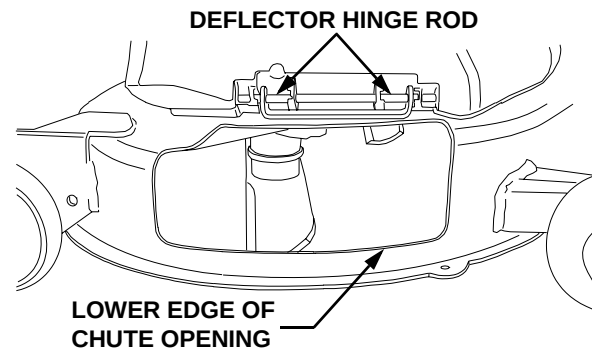

Figure 4-2
2. Lift and hold the chute deflector in the upward position (Refer to Figure 4-2).